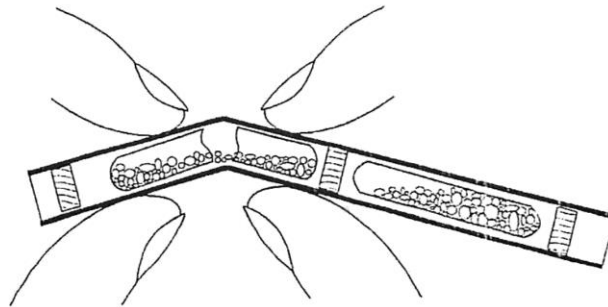

fig.1
- Crush **both** glass ampoules inside the plastic tube as shown in fig.1.